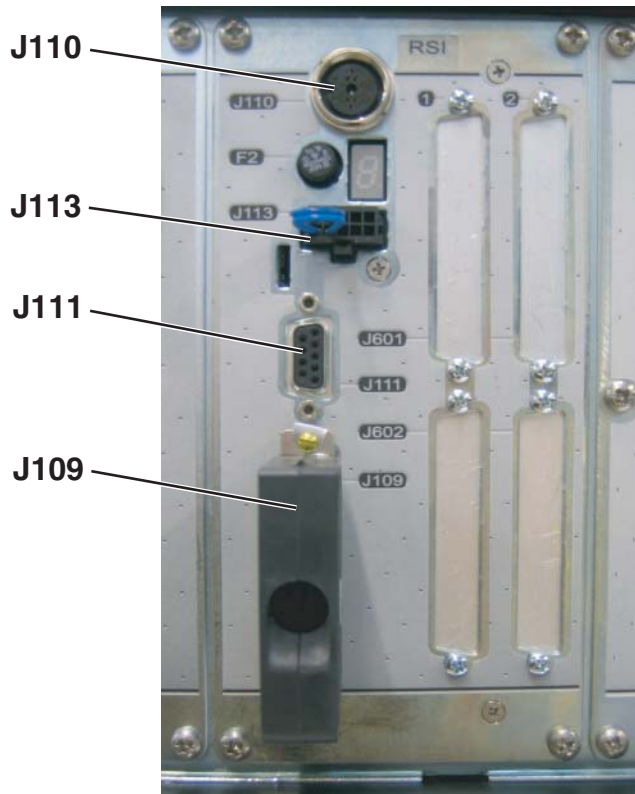

Figure 5.5
*The robot is delivered with a dummy plug connected to J109 (see figure 5.5).